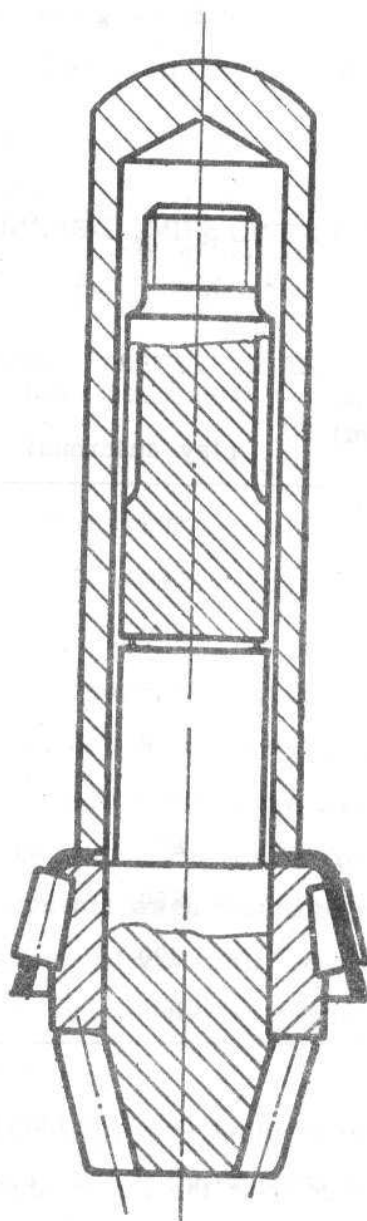

Fig. 4.119. PRESSING DIFFERENTIAL CASE BEARING INNER RACE
- Using S 139 bushing and a hydraulic press, fit inner bearing race on the driving pinion (see Fig. 4.119).